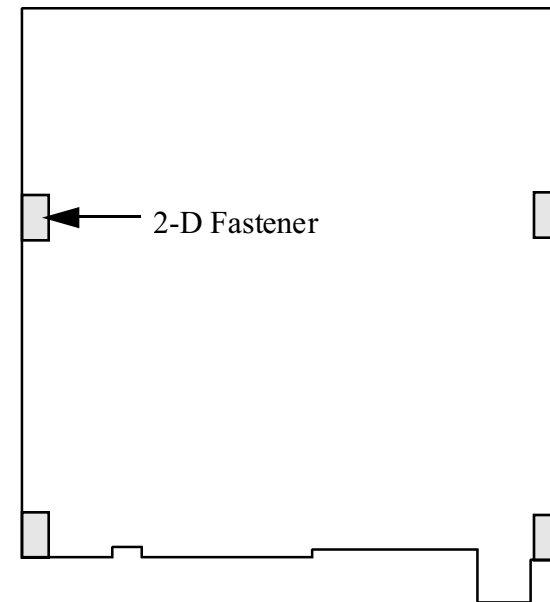

Figure 6-2
□ Turn the board over. (Figure 6-2 shows the bottom side.) Four *2-D fasteners* will be attached to the RF board at the indicated locations to secure it to the chassis panels.
- ☐ Install 2-D fasteners at the four locations indicated in Figure 6-2, on the *bottom* of the RF board. Secure each fastener from the top side of the board with 3/16" (4.8 mm) pan-head screws and #4 split lock washers (Figure 6-3b).